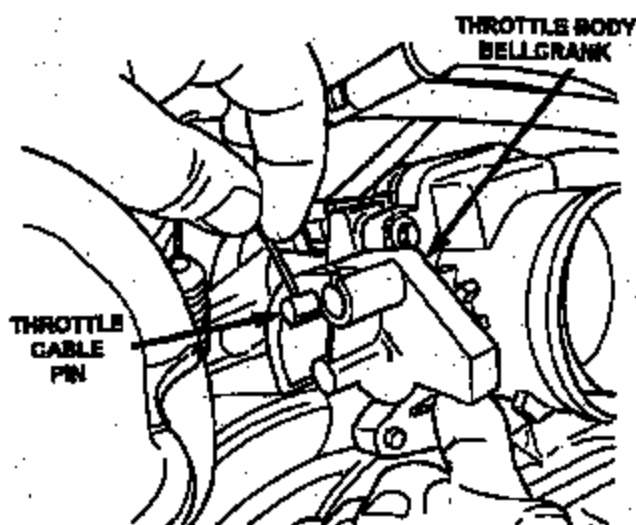

Figure 2
7. Hold the throttle body bellcrank in the wide open position and slide the throttle cable pin from the throttle body bellcrank (Figure 2).
12. Hold the throttle in the wide open position and slide the throttle cable pin into the throttle body bellcrank (Figure 2).